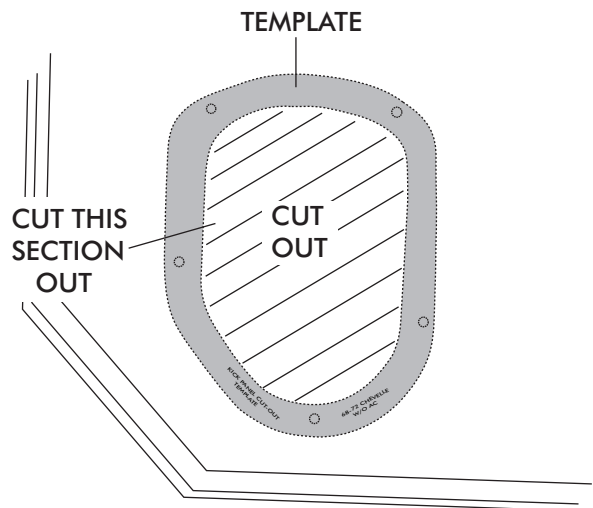

FIGURE 4a
- PLACE TEMPLATE ON KICK PANEL AS SHOWN IN FIGURE 4a.